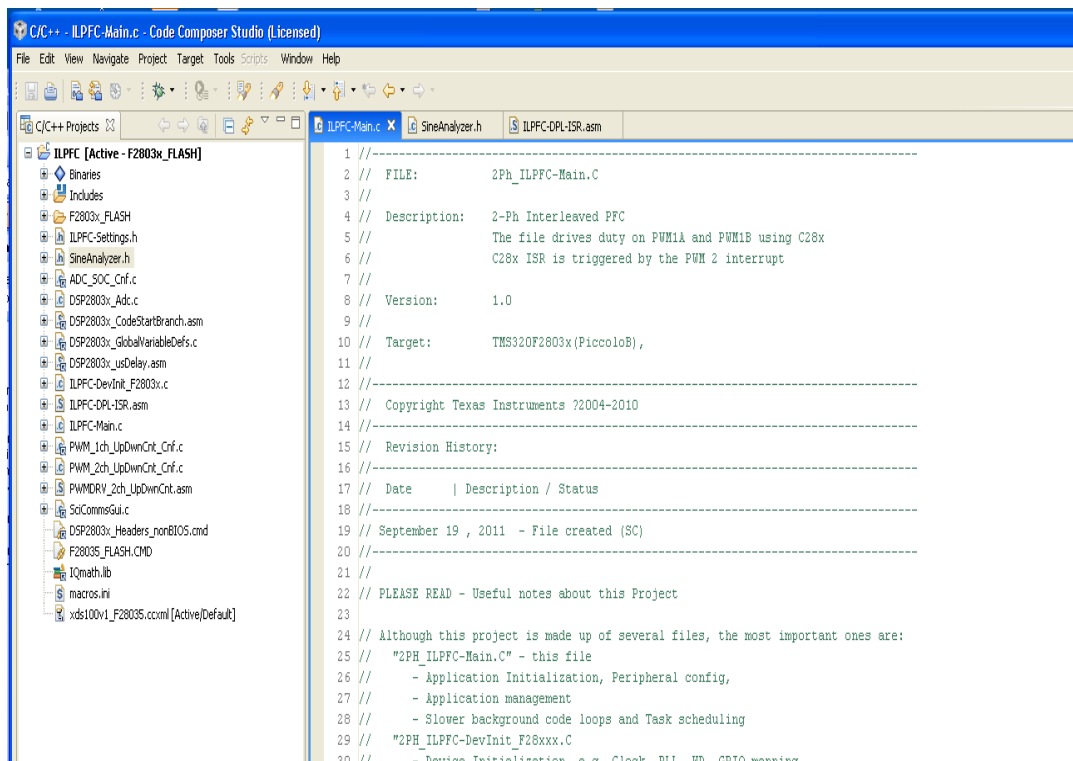

Figure 3.1.3. CCS Project Window
3. In the project window on the left, click the plus sign (+) to the left of Project. Your project window will look like the following in Figure 3.1.3: